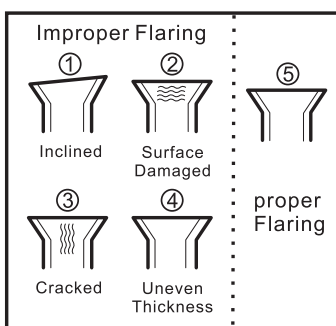

Fig. 6
- 4) Flare the pipes. Insert the pipe outlet into the copper nut before flaring the pipe. Ensure that the hole is flat with sound surface and even thickness. (Fig. 6)